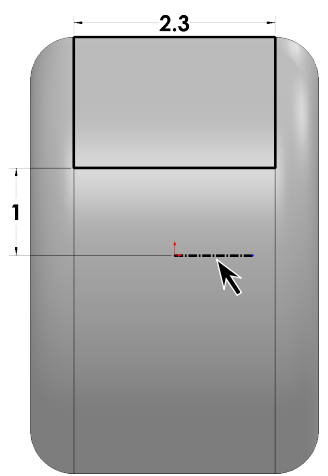

Fig. 14
Step 11. Draw **horizontal centerline from the Origin** , **Fig. 14.**